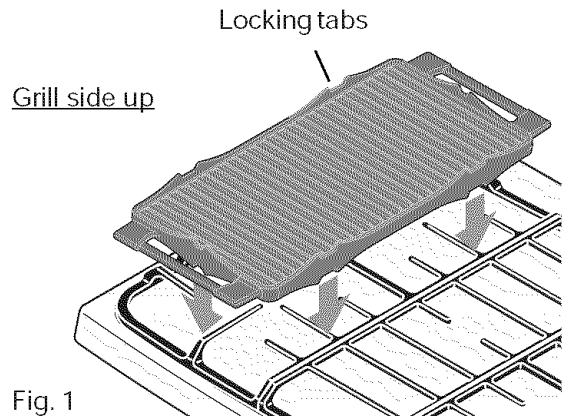

Fig. 1
- Place either side of the griddle centered over the left or right side of gas burner grates. Be sure locking tabs fit properly on top of grates -*Fig. 1*-.